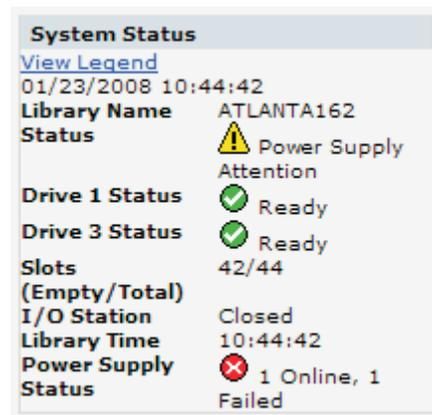

Figure 13. 4U library System Status screen showing a power supply failure
- The Power Supply Status will only appear if redundant power is being utilized with a 4U library, and the library was manufactured after March 14, 2008. If a redundant power supply fails, the System Status screen will appear as shown in Figure 13.